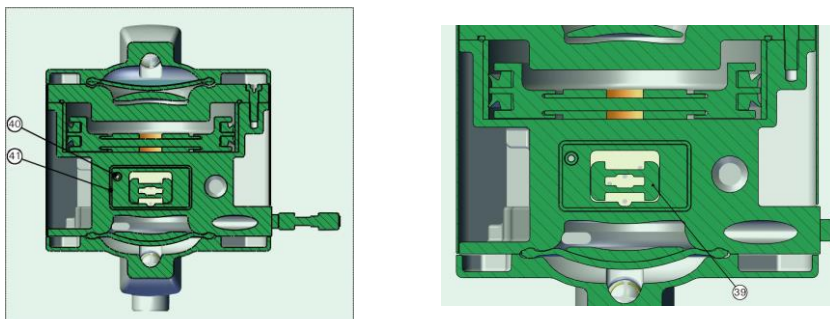

Fig. 11: Position of the ceramic plate and the pneumatic valve block
3. Insert the ceramic plate (42) into the middle section of the pump so that a hole aligns with the O-ring (40) (see Fig. 11, left).
4. Mount the pneumatic valve block (49) in reverse order.
6. Install the piston seals (45) onto the pusher (48) so that the sealing lips face each other.
7. Insert the pusher (48) into the pneumatic valve block (49).
8. Reinstall the O-rings (46) on the caps (47) and mount the caps (47) from the side into the pneumatic valve block (49).
9. Insert the O-ring (50) into the outer groove of the pneumatic valve block (49).
10. Place the O-rings (43) and (44) into the groove of the pneumatic valve block (49).
11. Insert the mounted pneumatic valve block (49) into the middle section of the pump.
The mounting direction is shown by the opening on the pneumatic valve block (49) and the recess in the centre piece of the pump (see Fig. 11, right).
12. Insert the main valve obturator (51) with the close side in front into the pneumatic valve block (49). The main valve (51) must be inserted so that the valve (48) can move it.
13. Place the O-rings (52), (54) and (55) into the ceramic plate (53).
14. Insert the ceramic plate (53) into the pneumatic valve block (49).